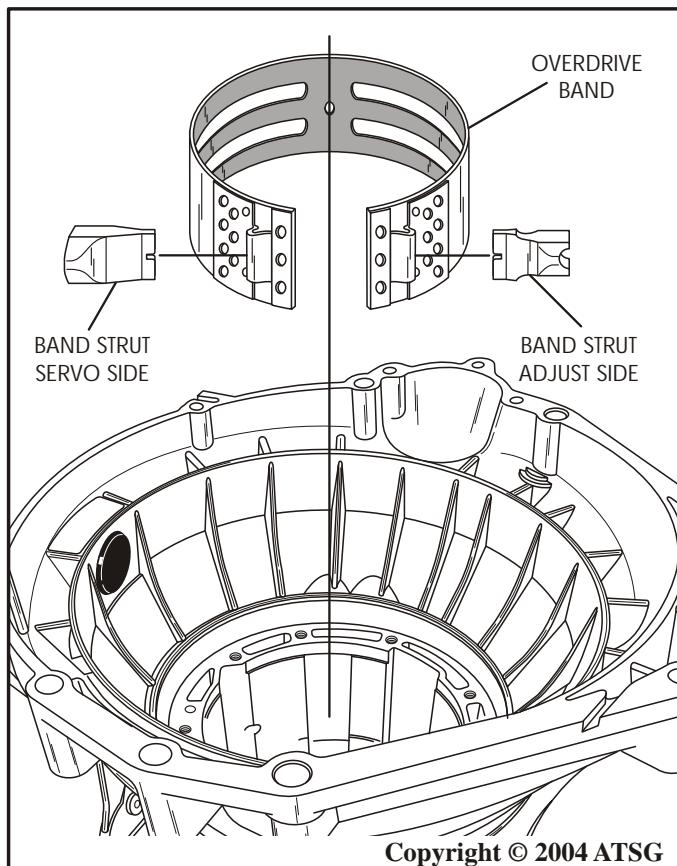

Figure 38
32. Remove the overdrive band assembly and both band struts, as shown in Figure 38.
- Note: Notice the difference in the band struts and which side they are located, as shown in Figure 38.***